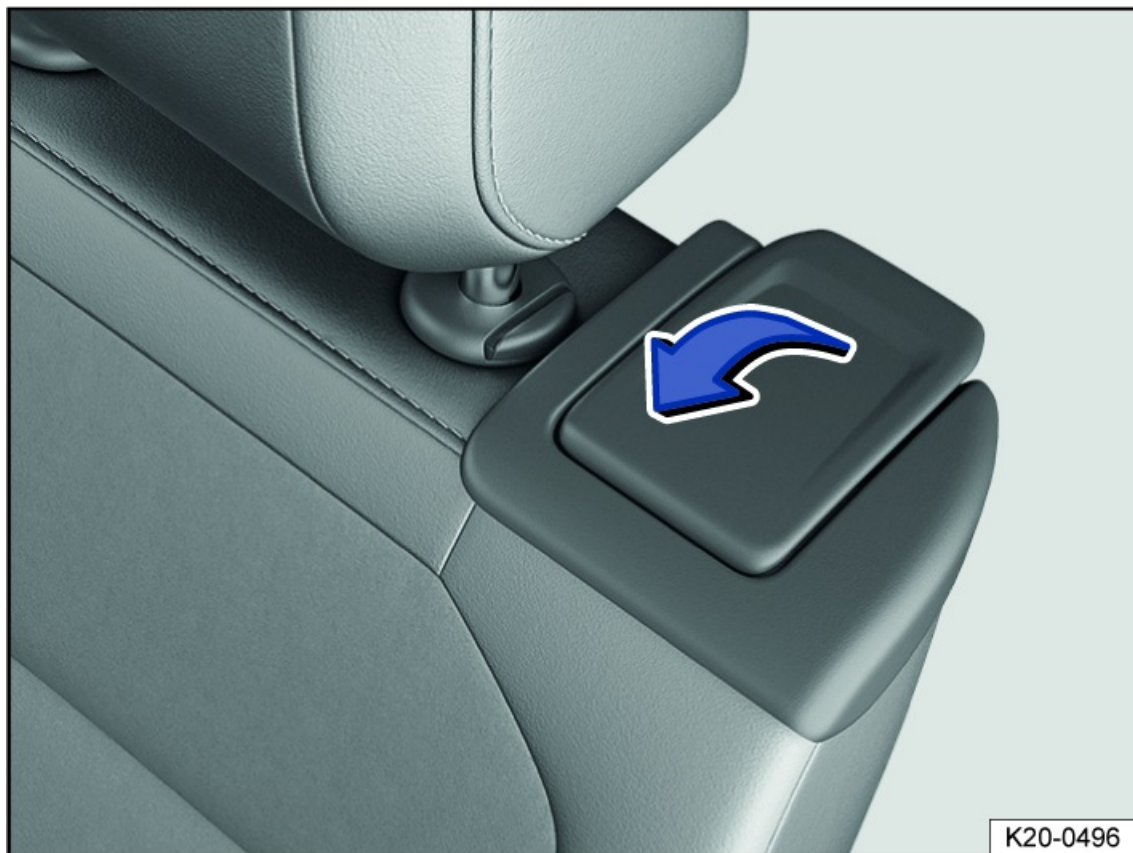

Fig. 97 Second row seats: entry assistance controls.
3. Pull the release lever *fig. 97* forward in the direction of the arrow, fold the rear seat backrest forward and push the seat forward.
2. Pull the release lever *fig. 97* and fold the rear seat backrest back into the upright position.